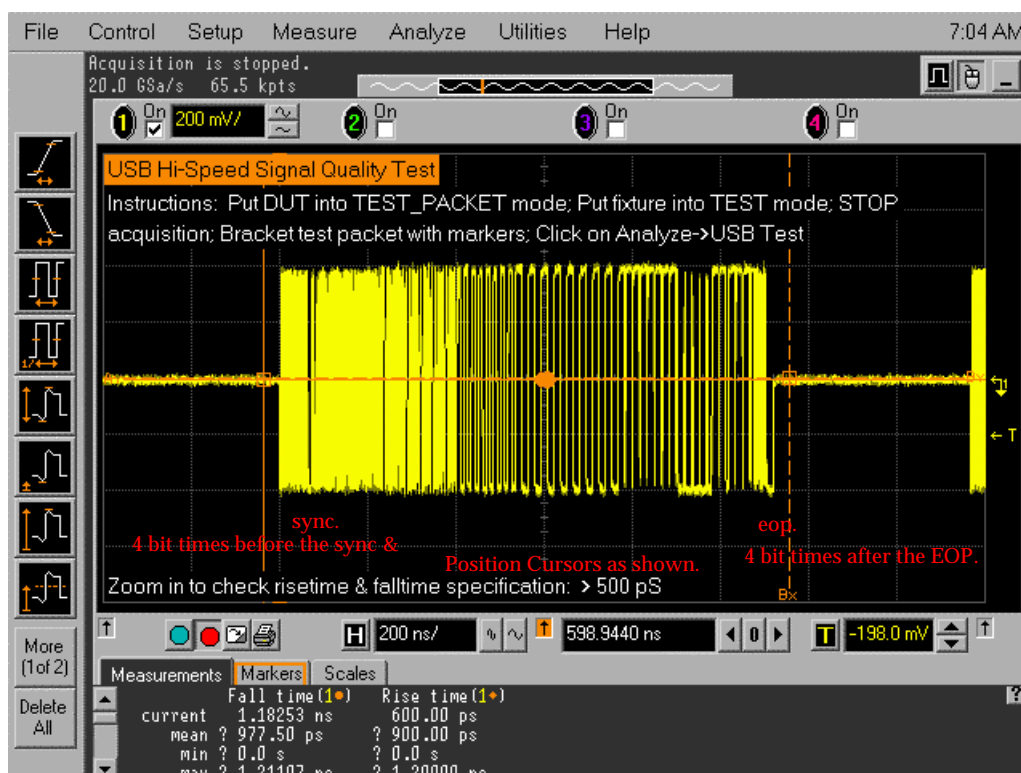

Figure 6. Hi-speed Test Packet Captured with the Infiniium Oscilloscope
11. On the oscilloscope display, place the two vertical markers around one test packet as shown in see Figure 6...